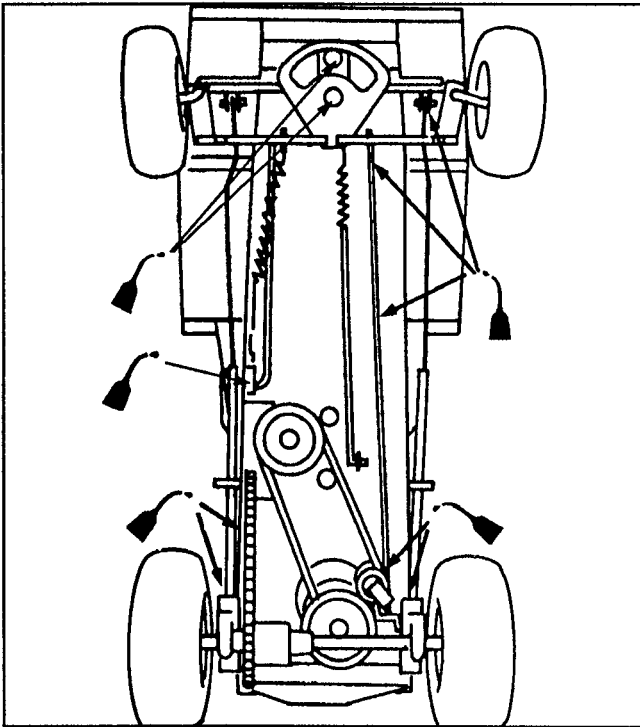
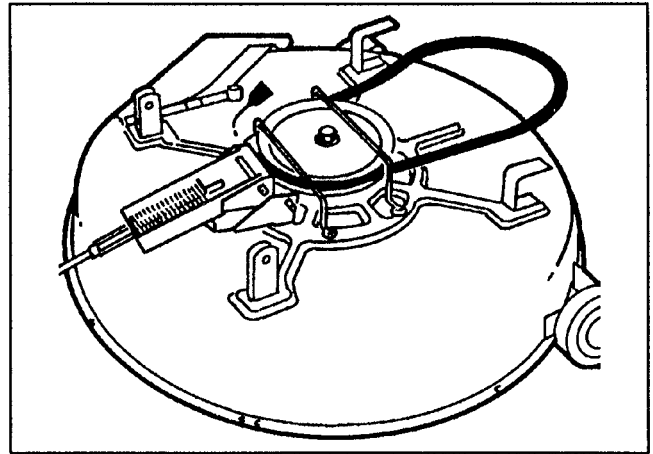

Figure 15
Figure 16
7. Lubricate pivot points in the steering, drive, brake, clutch, and deck engagement linkage with light oil (Fig. 15). Also lubricate mower housing (Fig. 16). Wipe up any excess oil.